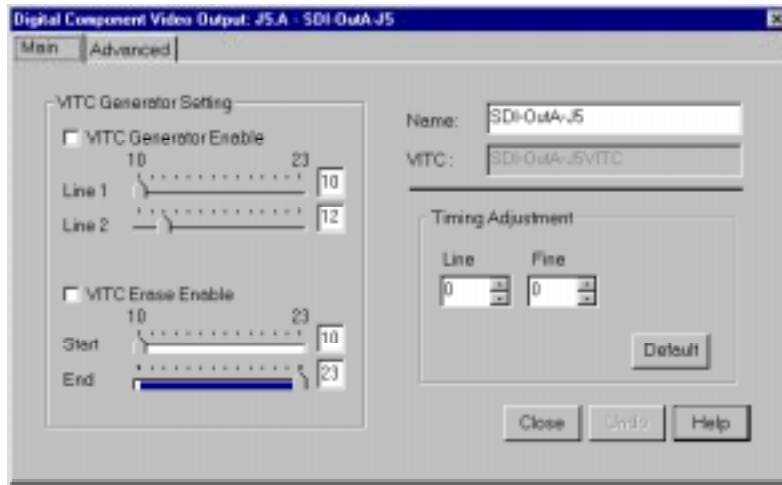

Figure 25. Serial Digital Component Video Output dialog box
1. Select **Video Output** from the configuration tree, and then click or double-click a digital component output from the list, such as *SDI-OutA-J5*. The Serial Digital Component Video Output dialog box appears (see Figure 25).